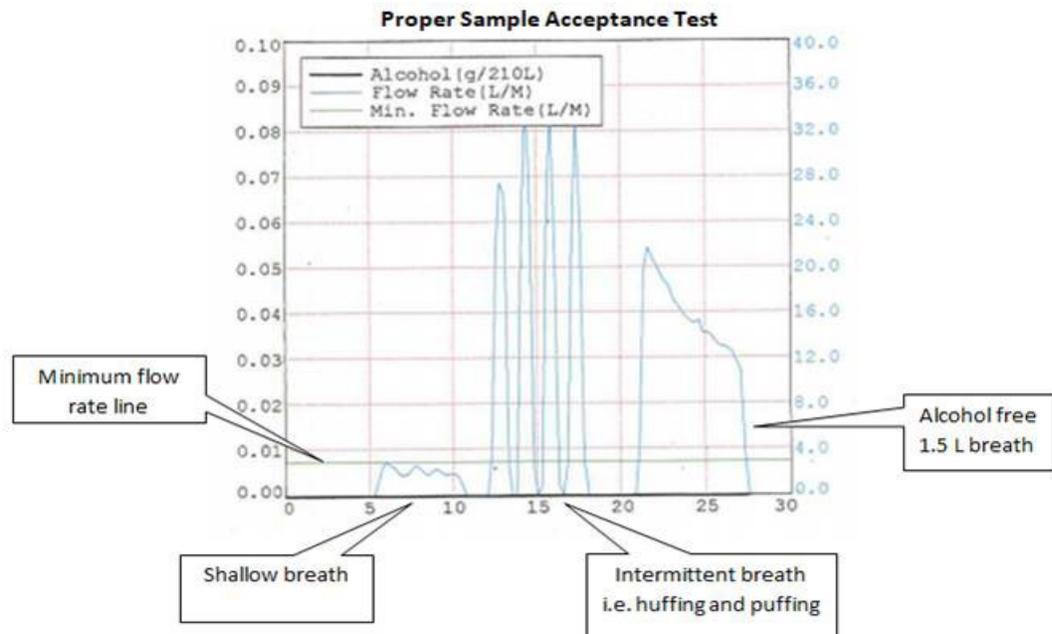

Figure 4. Proper Sample Acceptance Example
10.24.6.1. **If the alcohol line (black) is elevated by greater than or equal to 0.01 g/210 L (see the left-hand side of the graph in Figure 4) at any point during the sample acceptance test, the test is considered failing. Alcohol lines less than 0.01 g/210L are okay.**